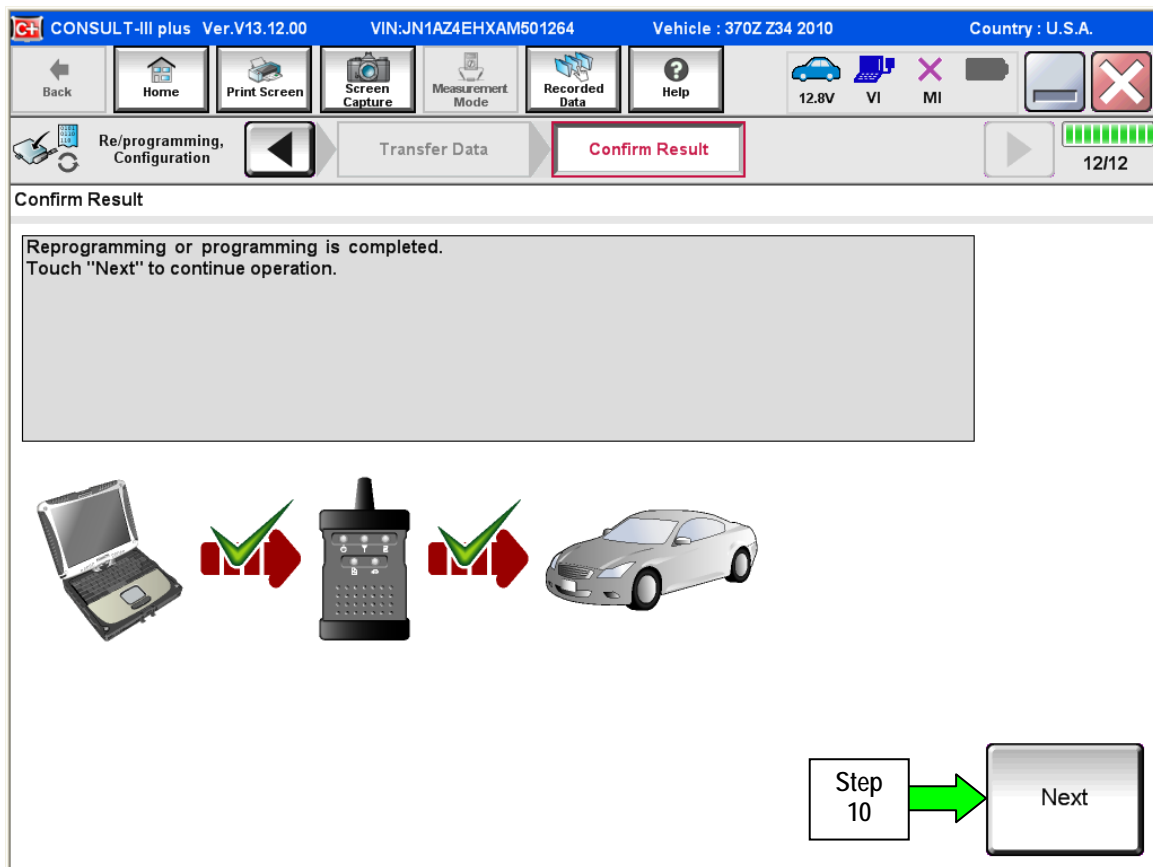

Figure 4
8. When the screen in Figure 4 displays, reprogramming is complete.
NOTE: If the screen in Figure 4 does not display (reprogramming does not complete), refer to the information on the page 8.